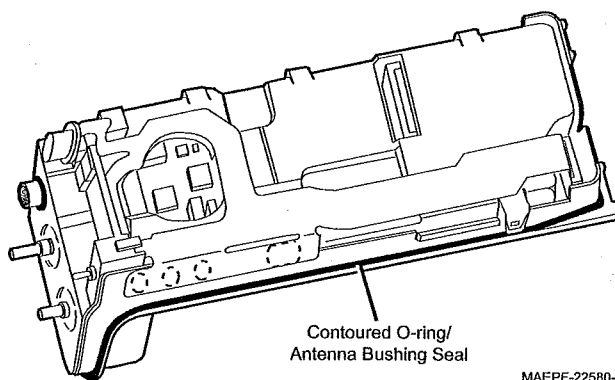

Figure 3.12
1. Install the contoured O-ring/antenna bushing seal around the antenna and in the groove provided (See Figure 3.12).